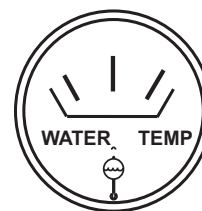

Figure 35. Coolant Temperature Gauge
15. The coolant temperature gauge (Figure 35) will indicate the coolant temperature. Under normal operating conditions the coolant temperature should be between 105 and 215 degrees fahrenheit (Green Zone).